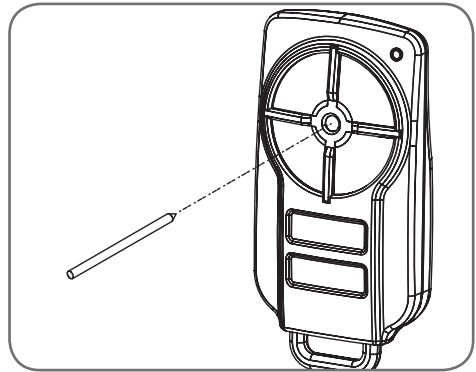

Fig. 8.4
- Using a small needle / pen, press and hold firmly for two seconds the middle button, through the Coding Hole **(Fig. 8.4)**.